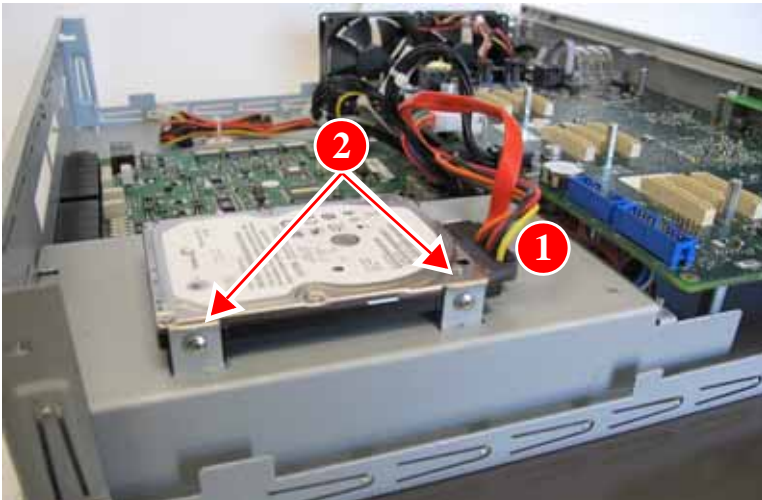

Figure 73: CX II/CXi II Hard Disk Drive/Solid State Drive Replacement
2. Unplug the data cable and power cable from the old hard disk drive; see (1) in Figure 73.
3. Remove the two screws securing the drive to the mounting bracket, and then lift the drive out; see (2) in Figure 73.